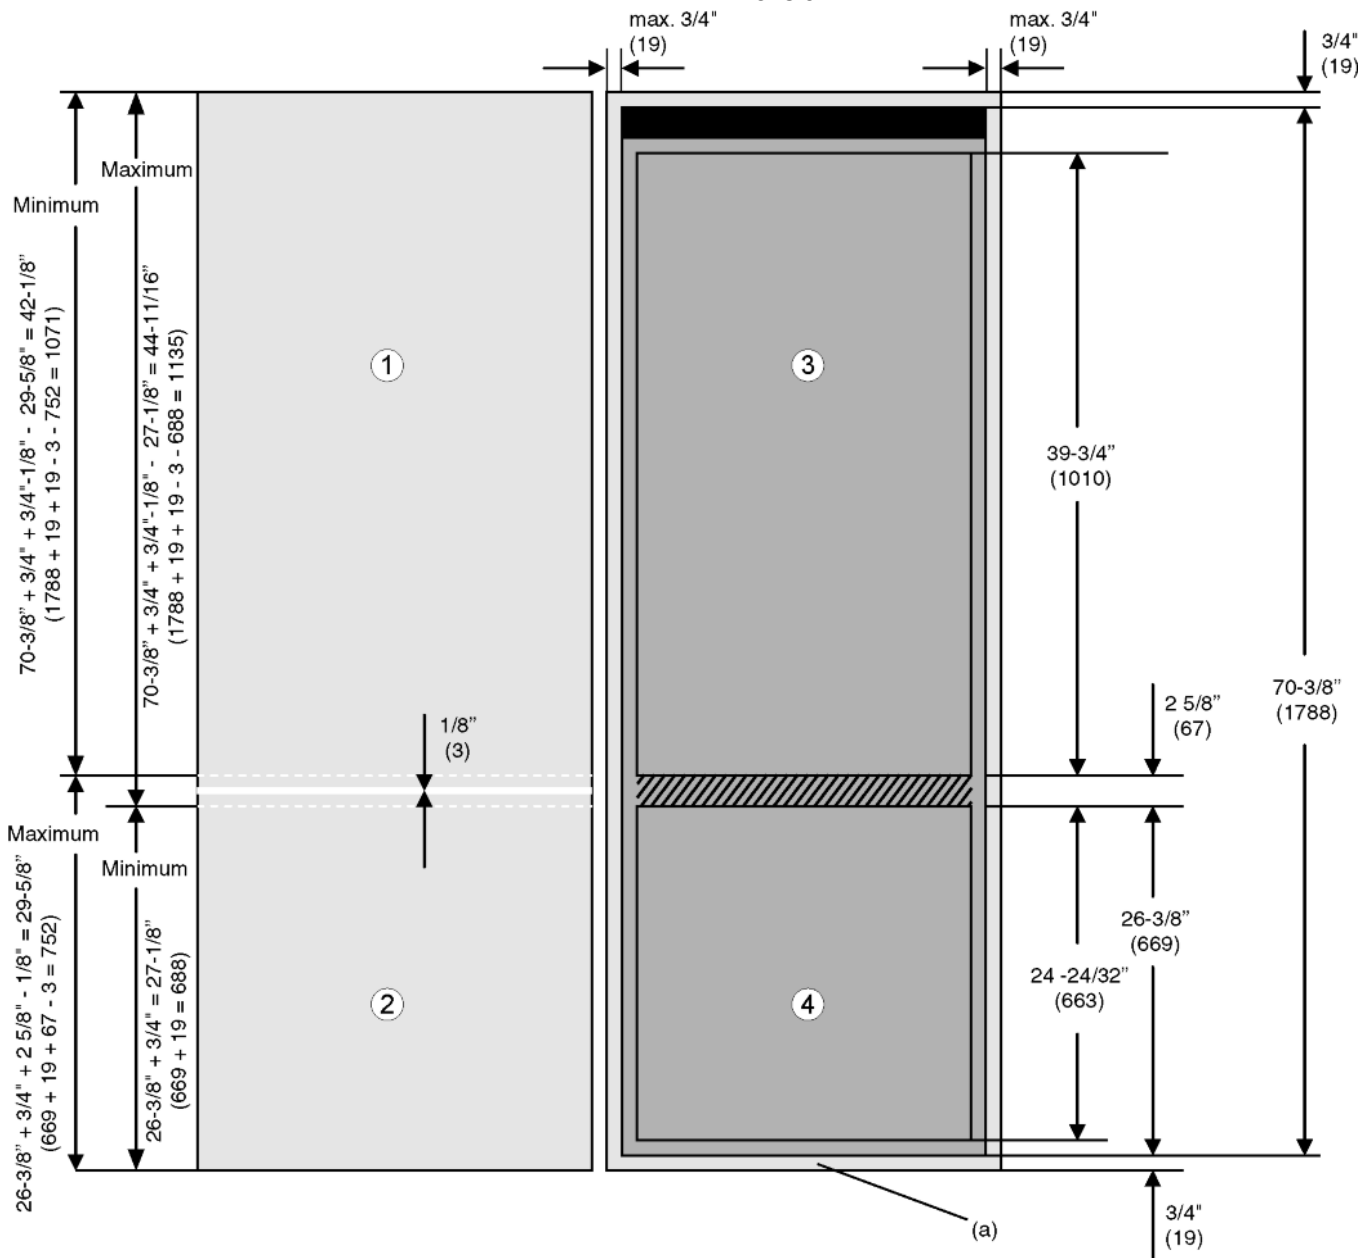

Fig. 4
► In order to cover the front of the floor plate Fig. 4 (a): extend the plate height to 26-3/8 in. + 3/4 in. = 27-1/8 in. (669 mm + 19 mm = 688 mm).
If no cabinet doors have yet been fitted, the gap between the freezer section door *Fig. 4 (4)* and the fridge section door *Fig. 4 (3)* is 2-5/8 in. (67 mm). After the cabinet doors have been fitted the gap between the two doors *Fig. 4 (1,2)* is about 1/8 in. (3 mm) and must be inside the hatched area.